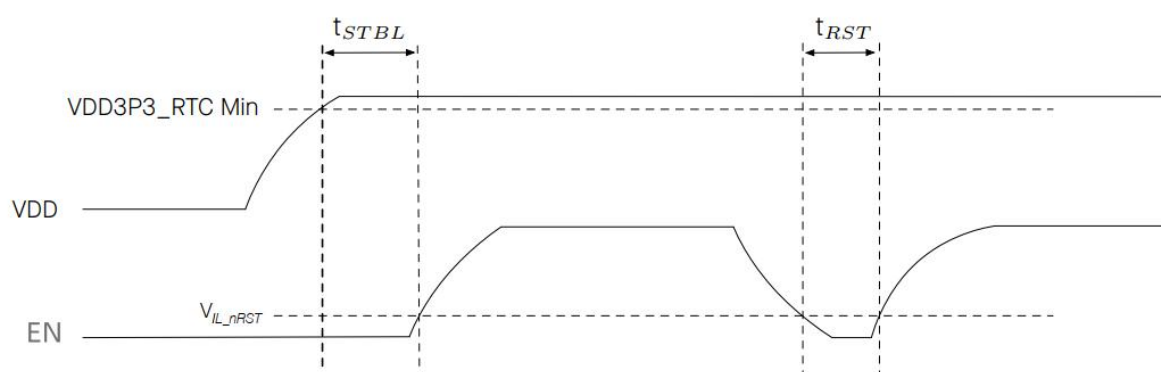

Figure 6-4 Power-on and Reset Timing Parameters
After the module is powered on, its power supply needs some time to stabilize. Then it is used for power-on, and immediately after, the enable pin (EN) needs to be pulled high to activate the module. For information about EN and the power-on and enable timing, please refer to Figure 6-4 and Table 6-4: